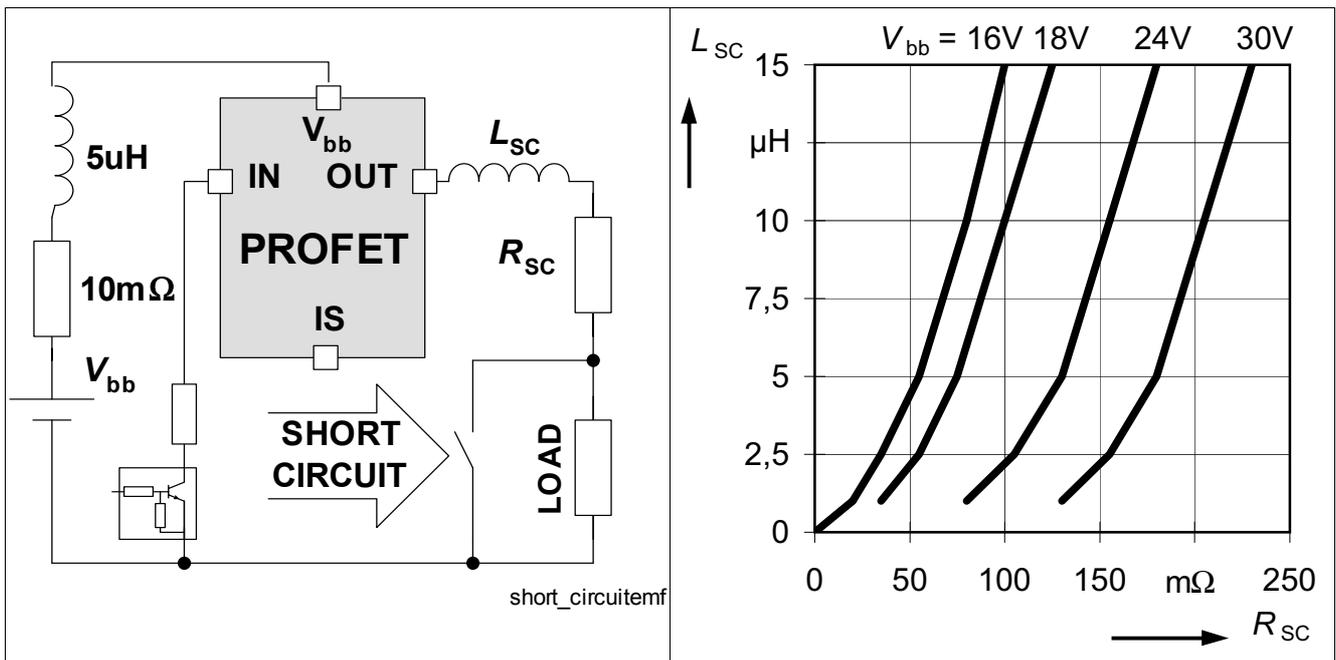

Figure 13 Short circuit
- 2) Short circuit is defined as a combination of remaining resistances and inductances. See Figure 13.
The capability to handle single short circuit events depends on the battery voltage as well as on the primary and secondary short impedance. **Figure 13** outlines allowable combinations for a single short circuit event of maximum, secondary inductance for given secondary resistance.